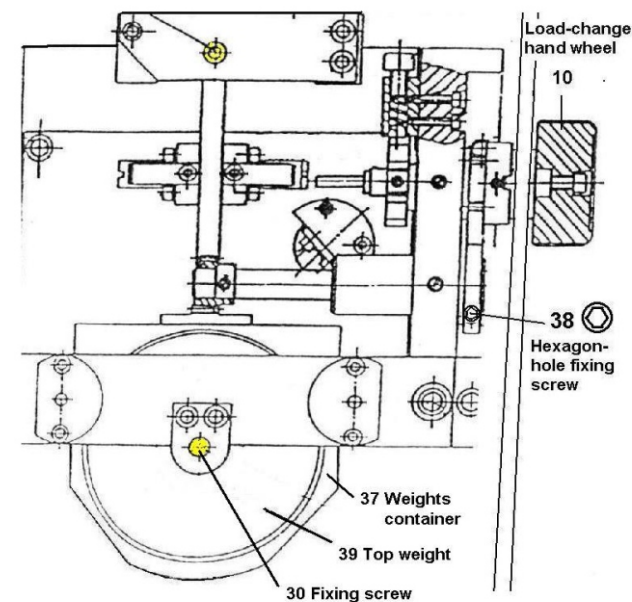

Fig.11
If the hardness values measured in some test force (e.g. 300 gf) and smaller forces are always lower than the standard, the weights-holding set (37) is probably descended and excessive load is applied on the test piece. Follow below steps to adjust it, see Fig.11.
- (1) Take out the hexagon wrench (for the fixing screw of M3) from accessory box.
- (2) Turn the load-change hand wheel (10) to select 10 gf force (The mark "10" on the hand wheel is directed to the red point). The weights container is now in its top position. The hexagon-hole fixing screw (38) should be upward and can be seen.
- (3) Turn the screw (30) clockwise (downwards) until it touches the top weight. This is to establish a reference for the height of the weights container.
- (4) Turn off the power switch.
- (5) Loosen the fixing screw (38) with the hexagon wrench.
- (6) Turn the screw (30) counter-clockwise (upwards) about 1-1.5 rotations.
- (7) Raise the weight container until the top weight (39) touches with the screw (30).
- (8) With a hand holding the whole weights container in its top position, re-tighten the fixing screw (38) firmly.